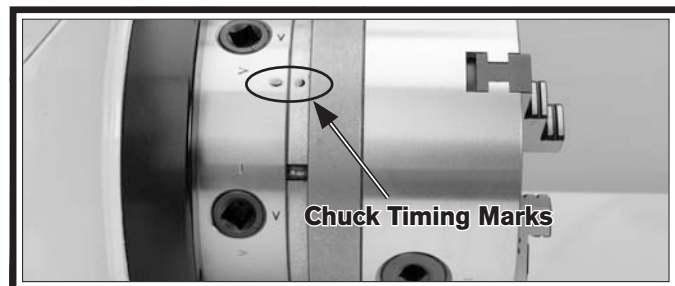

Figure 42. Chuck timing marks aligned.
5. Position the chuck/faceplate in front of the spindle nose, align the chuck timing marks, as shown in **Figure 42**, and align the camlock studs with the sockets, then carefully insert the chuck or faceplate onto the spindle.